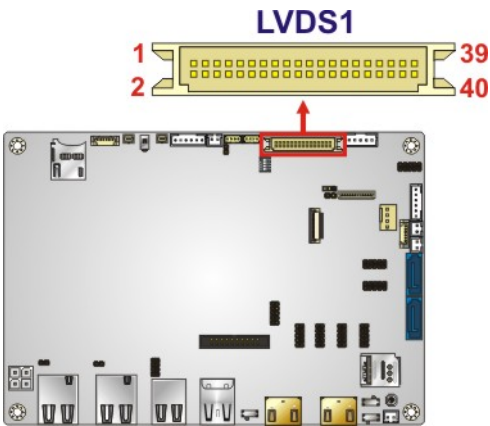

Figure 3-17: LVDS Connector Location
- CN Location:** See **Figure 3-17**